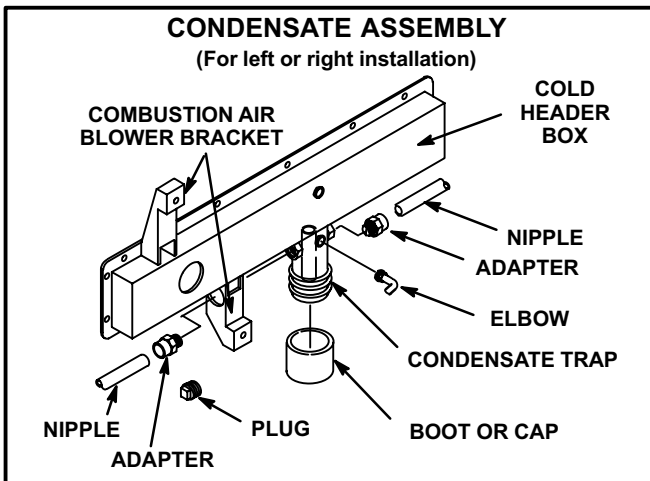

FIGURE 21
- 2 - Connect 1/2" (13 mm) plastic pipe plug (provided) in the unused end of the condensate trap. Install plug so that it is sealed water tight yet able to be removed. Do not permanently seal the connection. Teflon tape is recommended to seal joint. See figure 21.